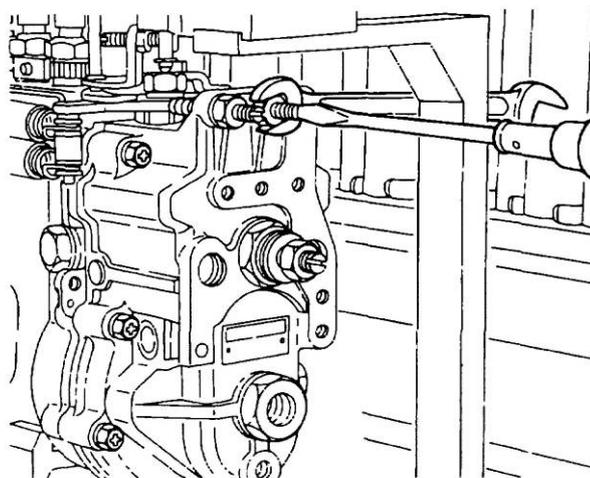

Figure 121 Adjustment of the Idle Setting Bolt
- k.** Set the pump speed at 80 to 100 rpm and adjust the idle setting bolt (Figure 121) so that the control rack will be at 11.5 mm.